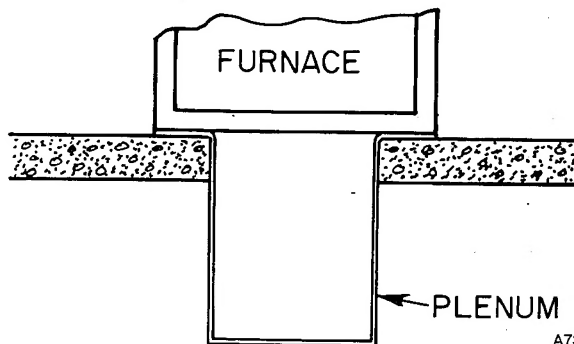

Fig. 4—Furnace on a Concrete Slab
3. Place plenum and furnace as shown in Fig. 4.